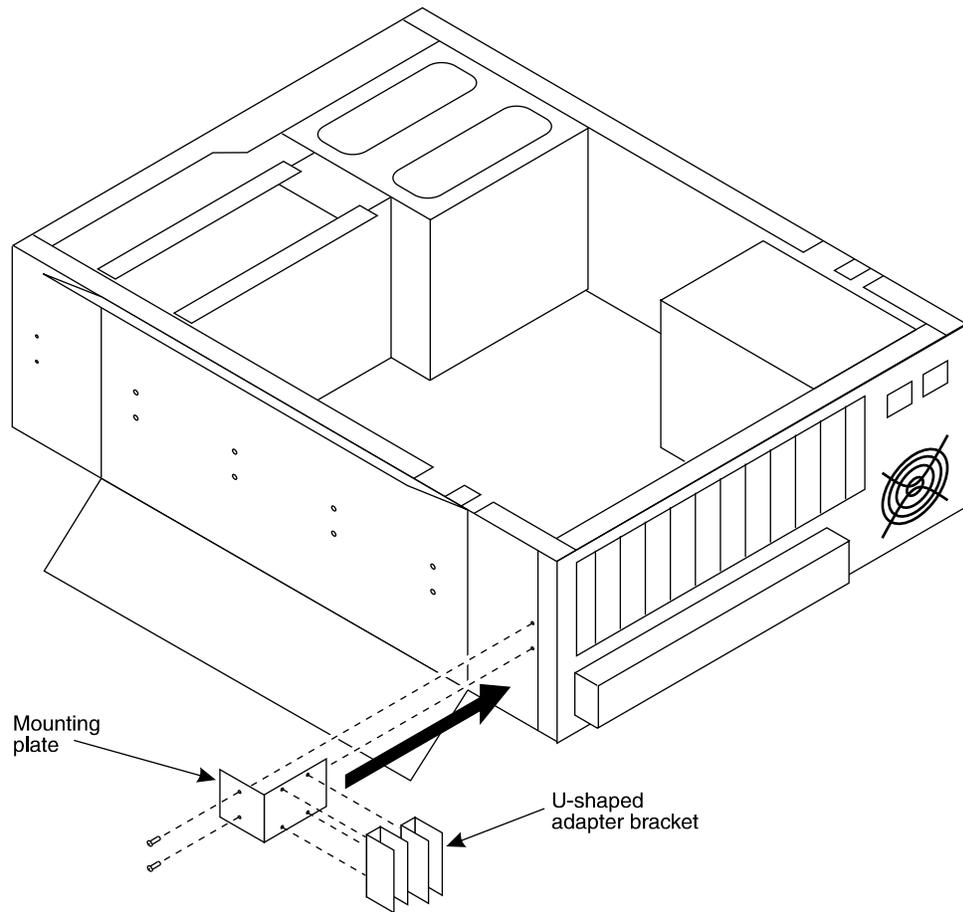

Figure 8-3. Tip/Ring Distribution Hardware After Assembly
7. Place the MAP/40 or 40s on its side and install the distribution mounting plate below the circuit card cage on the bottom of the MAP/40 (Figure 8-3).
The u-shape of the bracket should face out with the grounding lug towards the MAP/40 or 40s top surface (Figure 8-3).